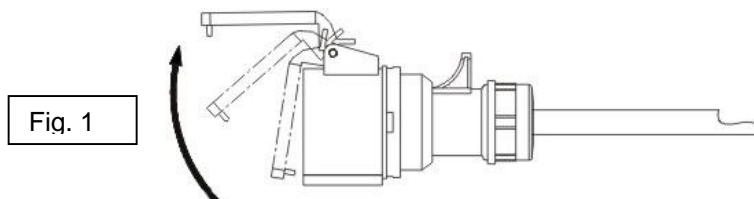

Fig. 1
1.2. Connect the power cable properly to the heater. To do this, open the protective flap of the five-pole power connection (see Fig. 1). Now connect the plug head of the power cable to the socket provided for this purpose on your heater (see Fig. 2). It is important that the power connection is firmly seated in the connection socket (4) and that the nipple of the protective flap engages in the recess provided in the heater (3). Finally, connect the power plug (5) properly to a power socket.